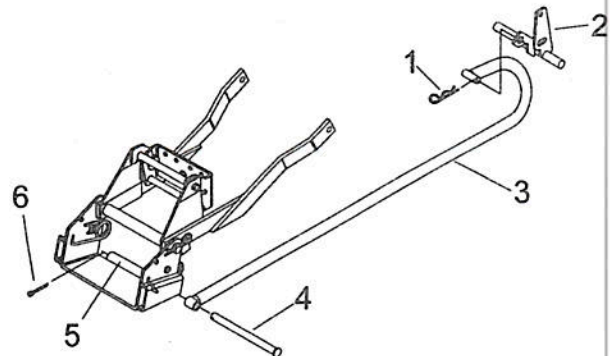

Figure 9
Install the push bar (fig. 9, item 3) in the hole on the flat bar welded on the lift mechanism cross shaft underneath the tractor (item 2) secure with 2.5mm. hair pin (item 1). Attach the front of the bar to the pivot support tube (item 5) with the pin (item 4) and the cotter pin 5/32 x 1"(item 6).